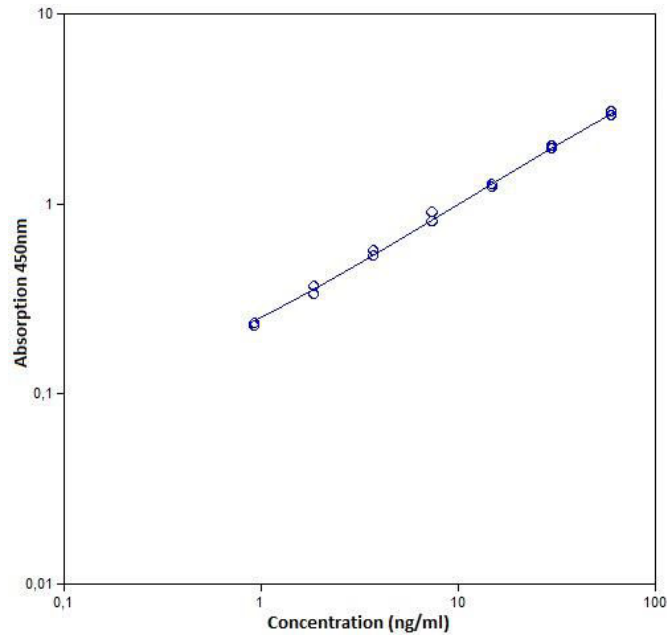

Fig. 9 Representative standard curve for human C1q ELISA. Human C1q was diluted in serial 2-fold steps in Assay Buffer (1x).
- A representative standard curve is shown in Figure 9.